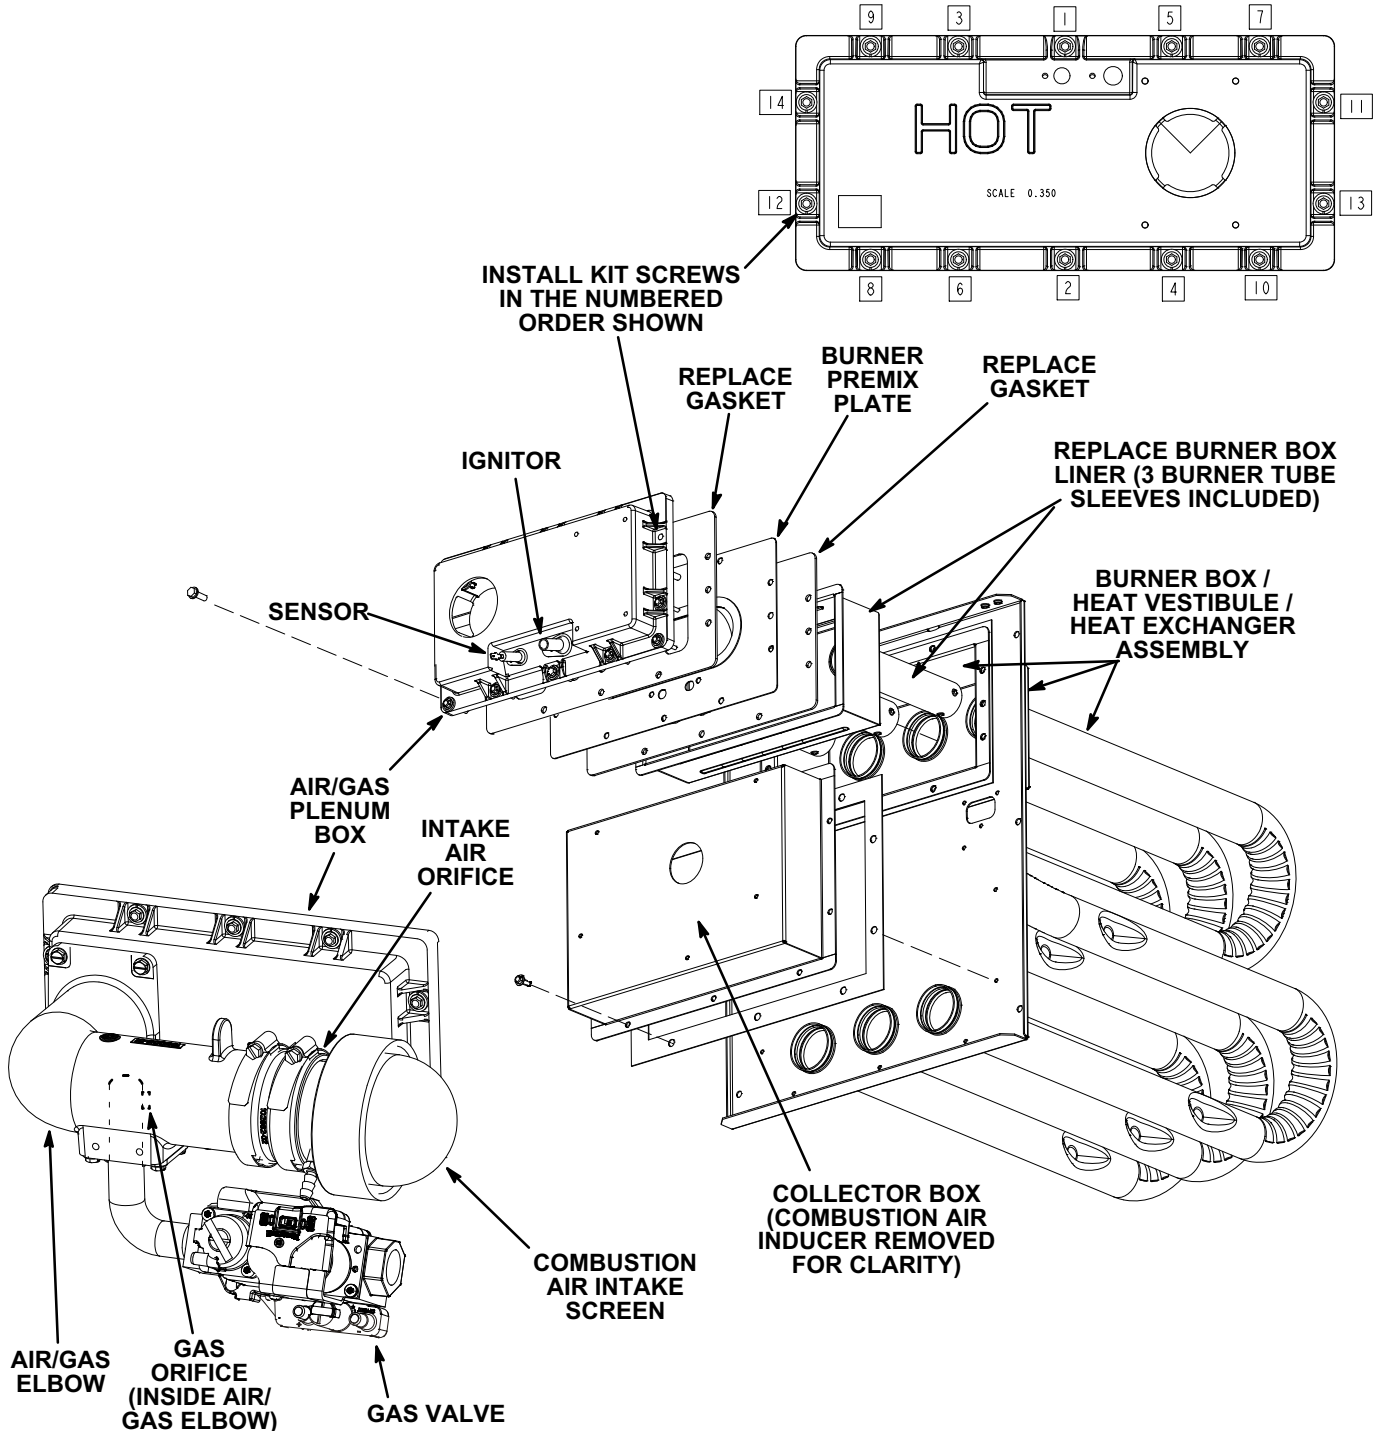

FIGURE 1
See figure 1.
- 9- Reinstall the air / gas plenum *with the 14 provided screws*. Make note of the numbered sequence when installing the air / gas plenum. Follow the sequence as shown in Figure 1. **Torque screws to a maximum of 100 + 5 in - lbs. and a minimum 60 in - lbs. Re-torque the screws using the same procedure, then repeat once again.**